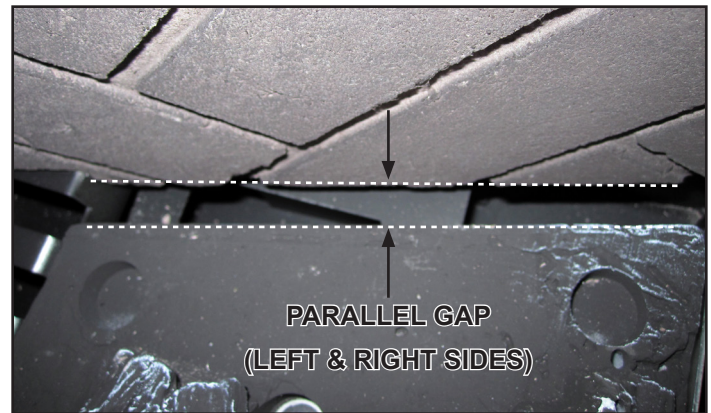

Figure 10.6 - Place Left Side Refractory
3. Repeat the same process for the left side panel. When side refractory pieces are installed properly, the gap between the refractory and the burner should be parallel. See Figure 10.6.